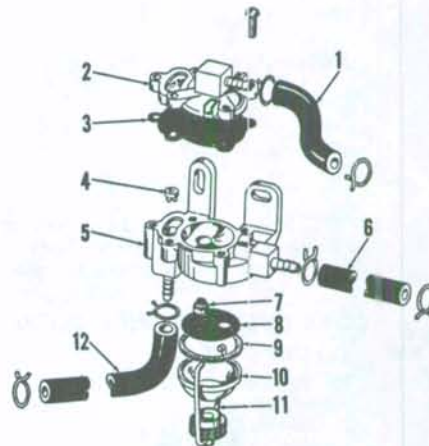

Fig. Mc5-6 — Exploded view of diaphragm type fuel pump. Refer also to Fig. Mc5-5.
Fig. Mc5-5 — Schematic view of single stage fuel pump used. Fuel pump is operated by vacuum and pressure pulsations from one crankcase of the power head. Check valves (4 and 7) limit fuel flow to one direction through pump. Refer also to Fig. Mc5-6 for exploded view.
Check valves (4 and 7—Fig. Mc5-6) are interchangeable. Fuel pump should develop approximately 1 psi at rated speed. To check the pressure, tee a suitable low-pressure gage into fuel pump outlet line (12). Low fuel pump pressure may be caused by a clogged fuel filter, plugged or collapsed inlet line, malfunctioning fuel pump, leaking carburetor float valve or malfunctioning inlet reed valves in crankcase.
**FUEL FILTER.** An inlet screen and sediment bowl is built into the fuel pump as shown in Fig. Mc5-6. The procedure for disassembly is obvious. Clean the filter screen and water trap once each month; when fuel system is serviced; or when trouble exists, using a suitable solvent and making sure wire-mesh filter is thoroughly clean. If gum or varnish cannot be removed, renew the screen.